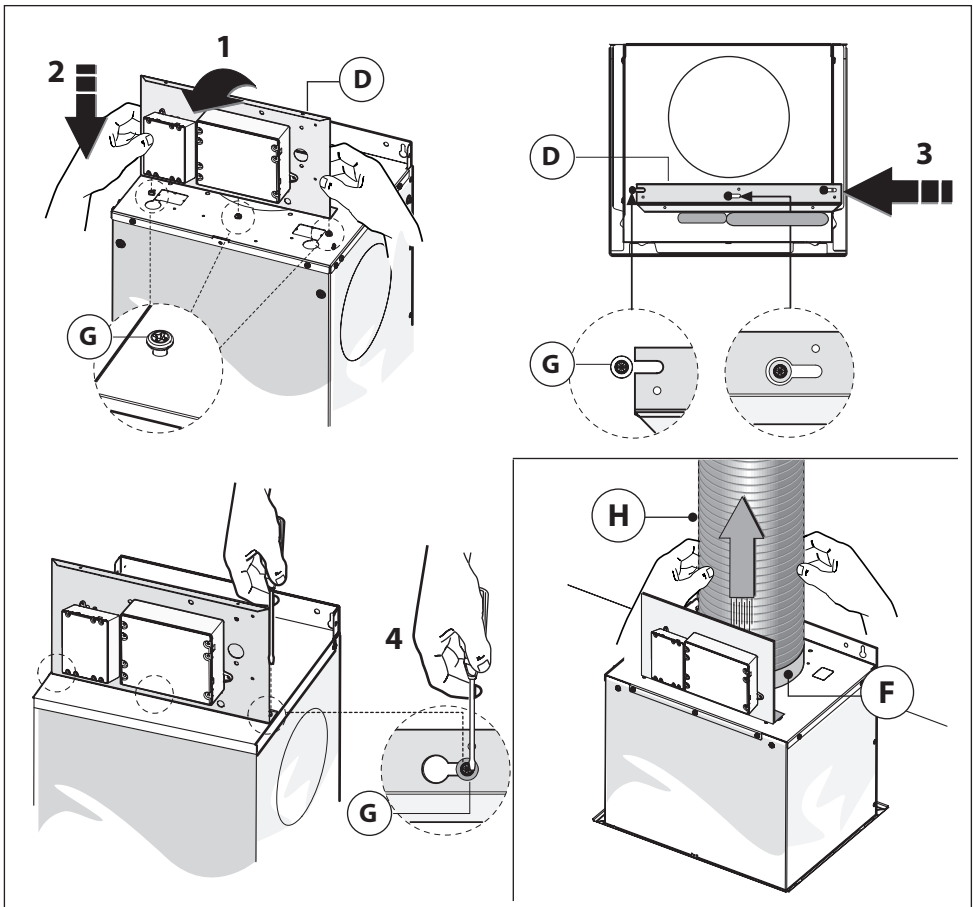

Fig.2
- Lift the electrical box and follow **phases 1-2-3** indicated in figure 2.
- Position the bracket in correspondence with the 3 screws **G** already set up on the container and screw them as indicated in phase 4 - figure 2.
- Fix the air exhaust pipe **H** (not included) on the air outlet flange **F** as indicated in figure 2.